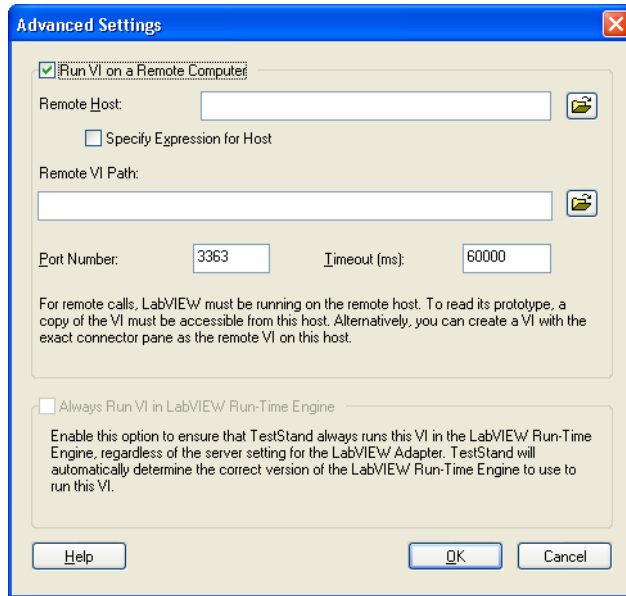

Figure A-1. Advanced Settings Dialog Box
2. If the remote computer is running the LabVIEW development system or a LabVIEW executable, specify the path to where the VI is located on the remote computer in the Remote VI Path text box, which is shown in Figure A-1.